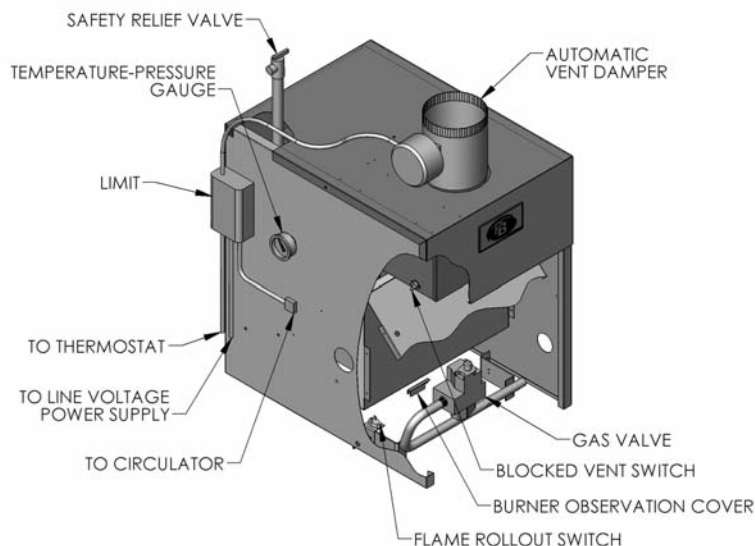
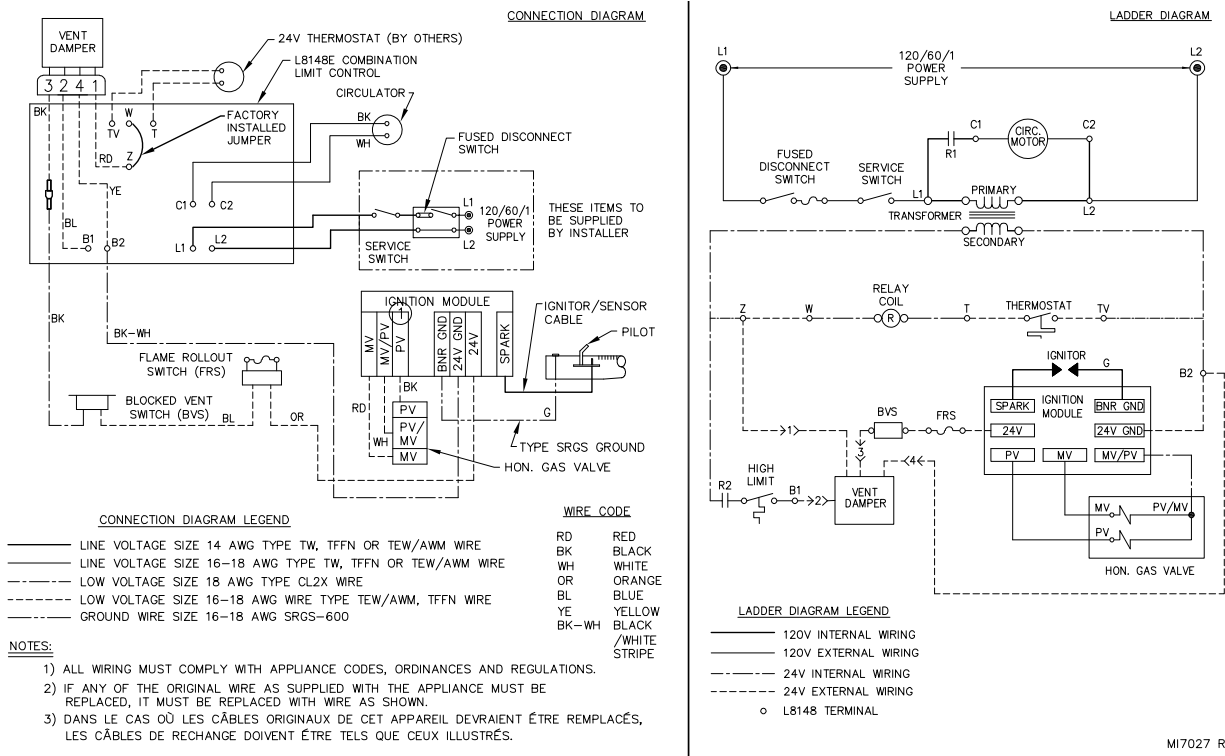

Figure 6.1: Wiring, Controls and Safety Devices
Figure 6.2: Wiring and Connection Diagram – Intermittent Ignition L8148E Control
3. A vent safety shut-off switch is located within the draft relief opening to shut off the boiler in case of a blocked vent condition. See Section 7B for details regarding this device. See Figure 6.1 in Section 6 (Electrical) for spill switch location.
1. See Figure 6.1 for location of wiring and controls. Use Figures 6.2 and 6.3 to connect the boiler to a power supply and to connect components to the boiler.
3. Connect the vent damper harness to the damper motor as shown in Figure 6.1.
1. For proper location of controls and accessories refer to Figure 6.1 and Section 11.